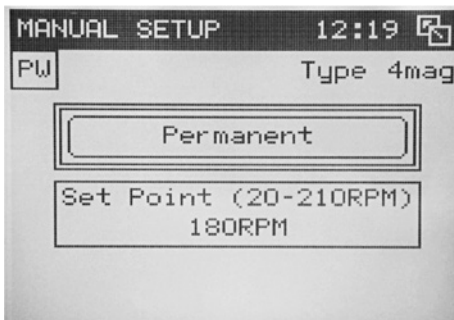

Figure 33 Manual Setup Permanent screen
- On the Manual Mode screen, press **Edit**. The Manual Setup screen opens (See Fig. 33 and 34).